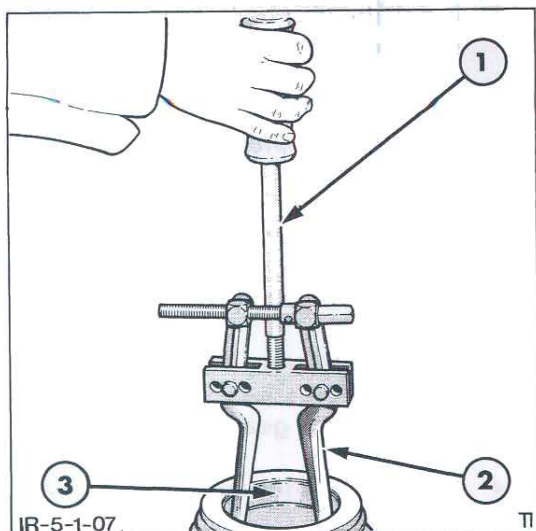

Figure 7
3. If necessary remove the axle shaft outer bearing cup from the housing using Tool Nos. 943 or 9507 and 943S or 9567, Figure 7.